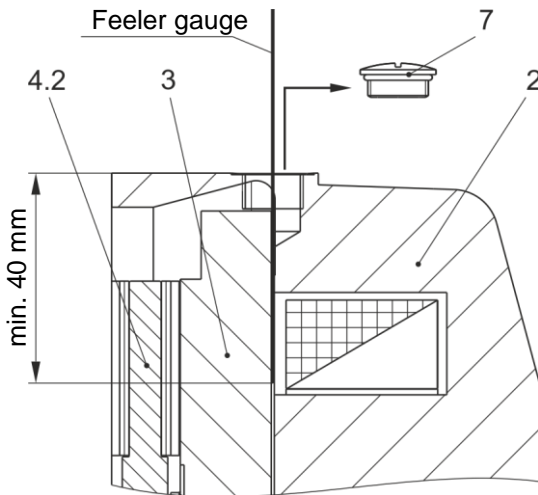

Fig. 10
The air gap can be inspected via a feeler gauge after removing the sealing plug / screw plug (7). The feeler gauge must be inserted at least 40 mm deep (see Fig. 10), so that the distance between the armature disk (3) and the coil carrier (2) can be measured.